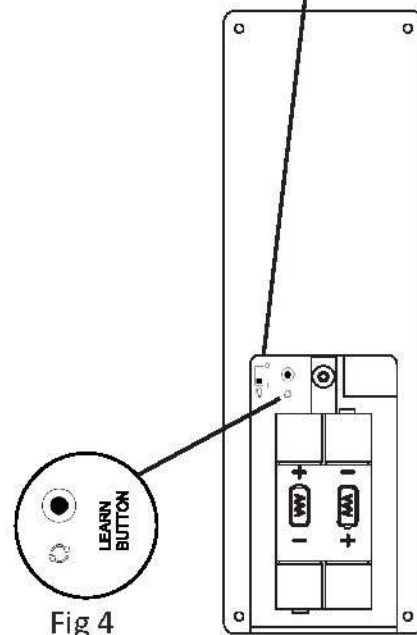

Fig 4
2. Restore AC power to the fan. Within 30 seconds PRESS and HOLD the LEARN BUTTON (Fig 4) for 5 seconds.